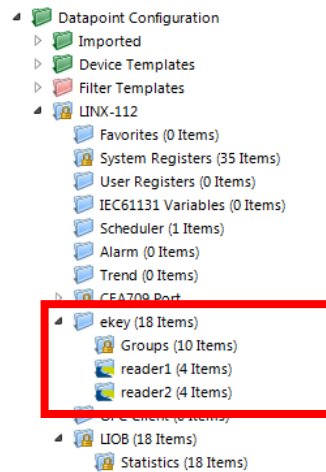

Figure 164: Data Point Manager with ekey device folders.
- The folder list (Figure 164),